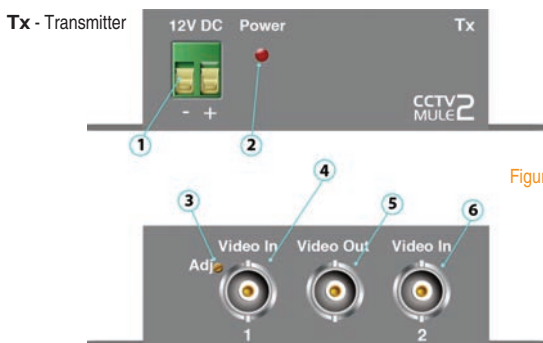
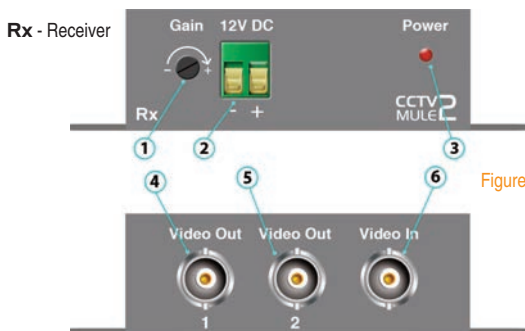

Figure 1
Figure 2
1. Connect your 2 video input signals into the 'Video In' ports 1 & 2 (figure1, 4 & 6)
2. The RG59 co-ax cable connects to the 'Video Out' port (figure1, 5), the maximum length for this cable is 200 metres.
3. You can adjust brightness of the video inputs if required by turning the grub screw (figure 1, 3) with a screwdriver clockwise and anticlockwise.
1. The RG59 co-ax cable from the transmitter connects to the 'Video In' port (figure2, 6) of the mule receiver.
2. Connect your video cables from the 'Video Out' ports marked 1 and 2 (figure 2, 4 & 5) to your video in inputs on the back of your 2 LCD Monitors.
3. If you find the video quality is low when coming out of the receiver, you can use the 'Gain' control knob (figure 2, 1) to fine adjust the video image. This is especially useful when transmitting over distance.
1. Connect the video input signal into the 'Video In' port 1 (figure 1, 4).
2. Connect an LCD monitor to the 'Video In' port 2 (figure 1, 6).
3. Connect the RG59 co-ax cable into the 'Video Out' port (figure 1, 5) the maximum length is 200 metres.
1. Connect the RG59 co-ax cable from the transmitter to the 'Video In' port (figure 2, 6) of the receiver.
2. Connect an LCD monitor into the 'Video Out' port 1 (figure 2, 4) of the receiver.
3. Connect a video input signal like a camera into the 'Video Out' port 2 (figure 2, 5).
2. Connect an audio input device such as a microphone into 'Video Out' port 2 (figure 1, 6) of the transmitter.
3. Connect an audio output device such as the VoiceOff into the 'Video Out' port 2 (figure 2, 5).
2. Connect an audio output device such as the VoiceOff into 'Video In' port 2 (figure 1, 6) of the transmitter.
3. Connect an audio input device such as microphone into the 'Video Out' port 2 (figure 2, 5).
A.1 Check the Mules are connected the correct way around. The transmitter Mule (TX) should have the camera inputs connected to it and sited at the camera end. The receiver Mule (RX) should have the video outputs connected to the DVR and should be sited at the DVR end. Make sure that you have video going in to the TX mule using a test monitor.
A.2 Check the power supply is connected correctly to both Mules and outputting 12v D.C. Ensure the positive cable is connected to the positive port (+) and the negative cable is connected to the negative port (-) (figure 1 & 2).
A.3 You will need to adjust the gain control by turning the 'Gain' control switch on the Mules (figures 1 & 2). This is done with a flat blade screwdriver, turn clockwise a fraction on the RX and review the video output again this may need a few turns to fully improve video quality. Remember that the maximum cable length is 200mtrs.
A.4 Ensure that the audio input is in 'Video In 2' (figure 1, 6) on the transmitter (TX) Mule as this is the only port that will transmit audio. Check the audio output device at the receiver (RX) end is in 'Video Out 2' (figure 2, 5). Also make sure your audio source is working ok.